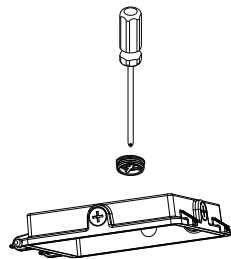

Fig.1-2
2. Remove the 3/4" plug on the top of the driver compartment (Fig.1-2)